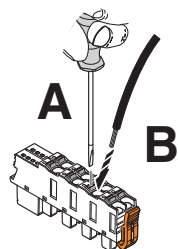

Fig. 8-6 Connecting a flexible cable
- Open the spring by pressing the spring lever with the screwdriver (Fig. 8-6, A).
- Insert the cable in the terminal point (B).